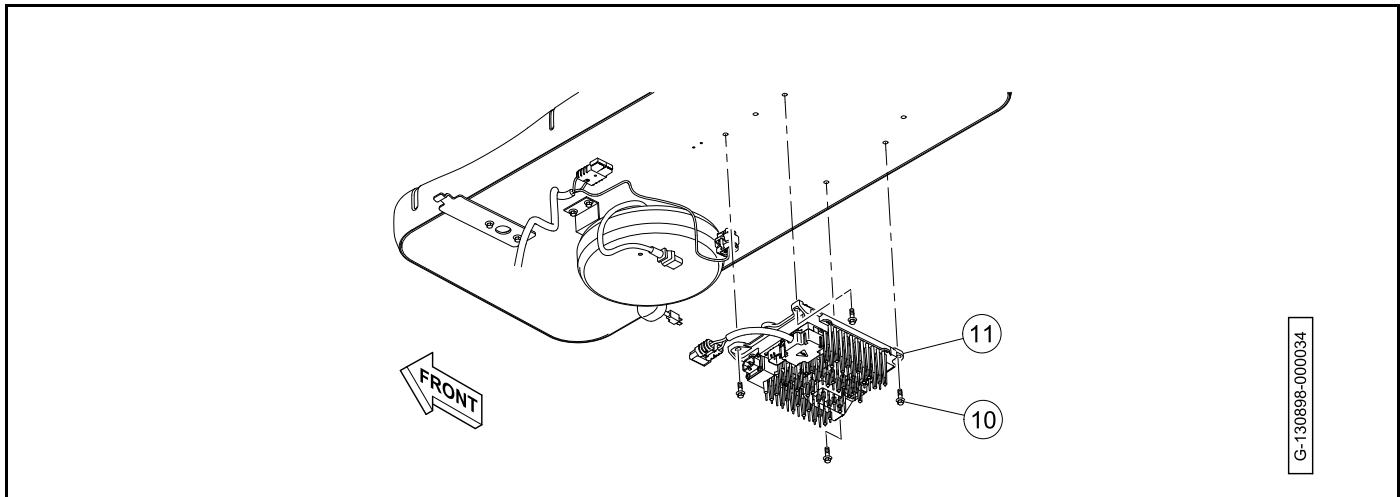

Figure 15-35 Battery Charger Removal
11. Remove the bolts (10) and the battery charger (Figure 15-35).